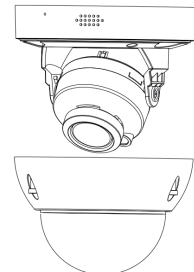

Figure 2-5 Take out the front cover
2. Take out the front cover: unscrew the screws fixing the front cover of the camera, and disassemble the front cover, as shown in Figure 2-5.